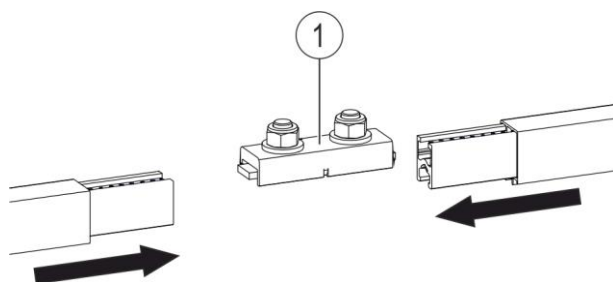

Fig. 75: Slide the conductor bar ends into the connector
- Slide the rail ends into the connector (Pos. 1) (see Fig. 75).